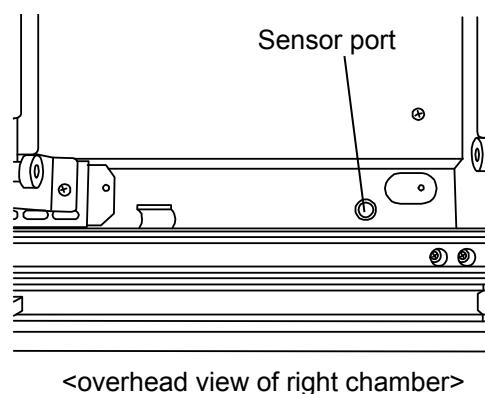

Fig. 4
6. Remove the putty covering the sensor port and take out the insulation in it. Pass the recorder sensor into the chamber through the sensor port from the space for temperature recorder. [Fig. 4]